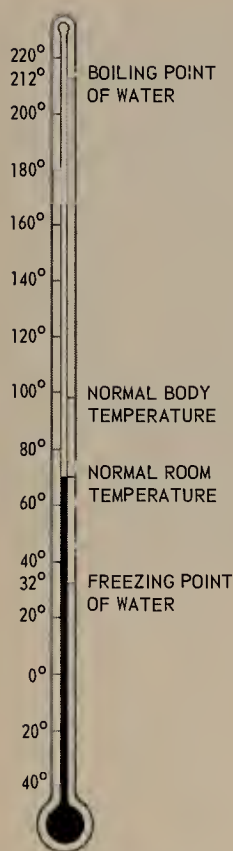

FIGURE 2.9 Fahrenheit thermometer.
2.16 The Thermometer. The thermometer (Fig. 2.9) shows a familiar use of the expansion of liquids as temperature goes up. The liquid, usually mercury (a metal that is liquid at ordinary temperatures), is largely contained in the glass bulb at the bottom of the glass tube. As temperature increases, the mercury expands. Part of it is forced up through the hollow glass tube. The higher the temperature, the more the mercury expands and the higher it is forced up through the tube. The tube is marked off to indicate the temperature in degrees.